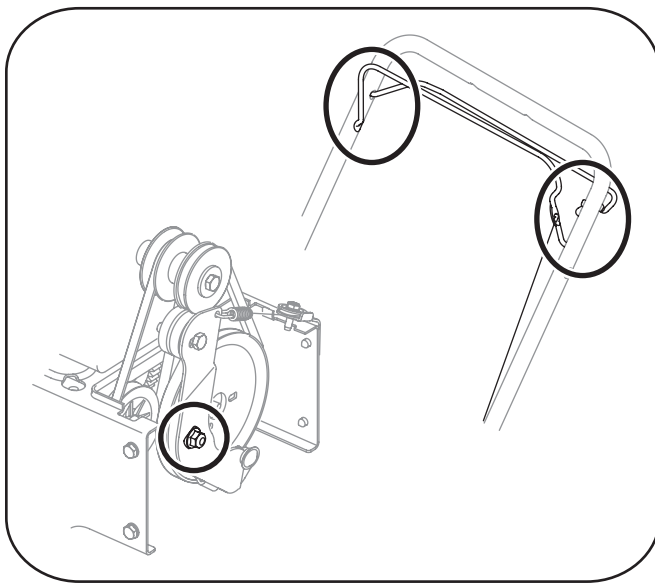

Figure 6-2
1. Lubricate pivot points on the auger control and drive control with a light engine oil once a season, see Figure 6-2.
2. Lubricate the auger idler bracket with a light engine oil once a season. See Figure 6-2.